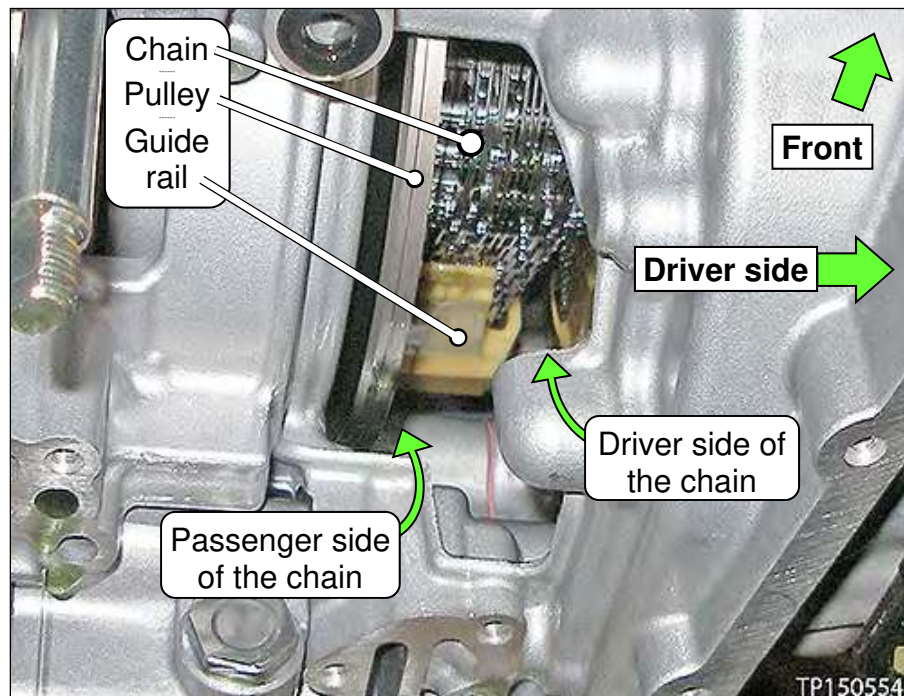
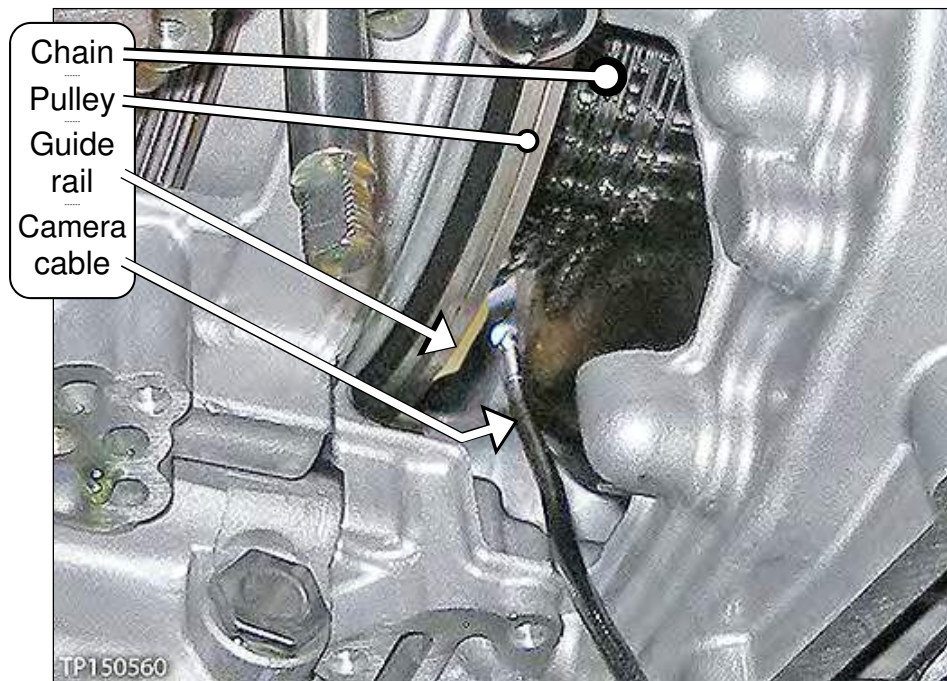
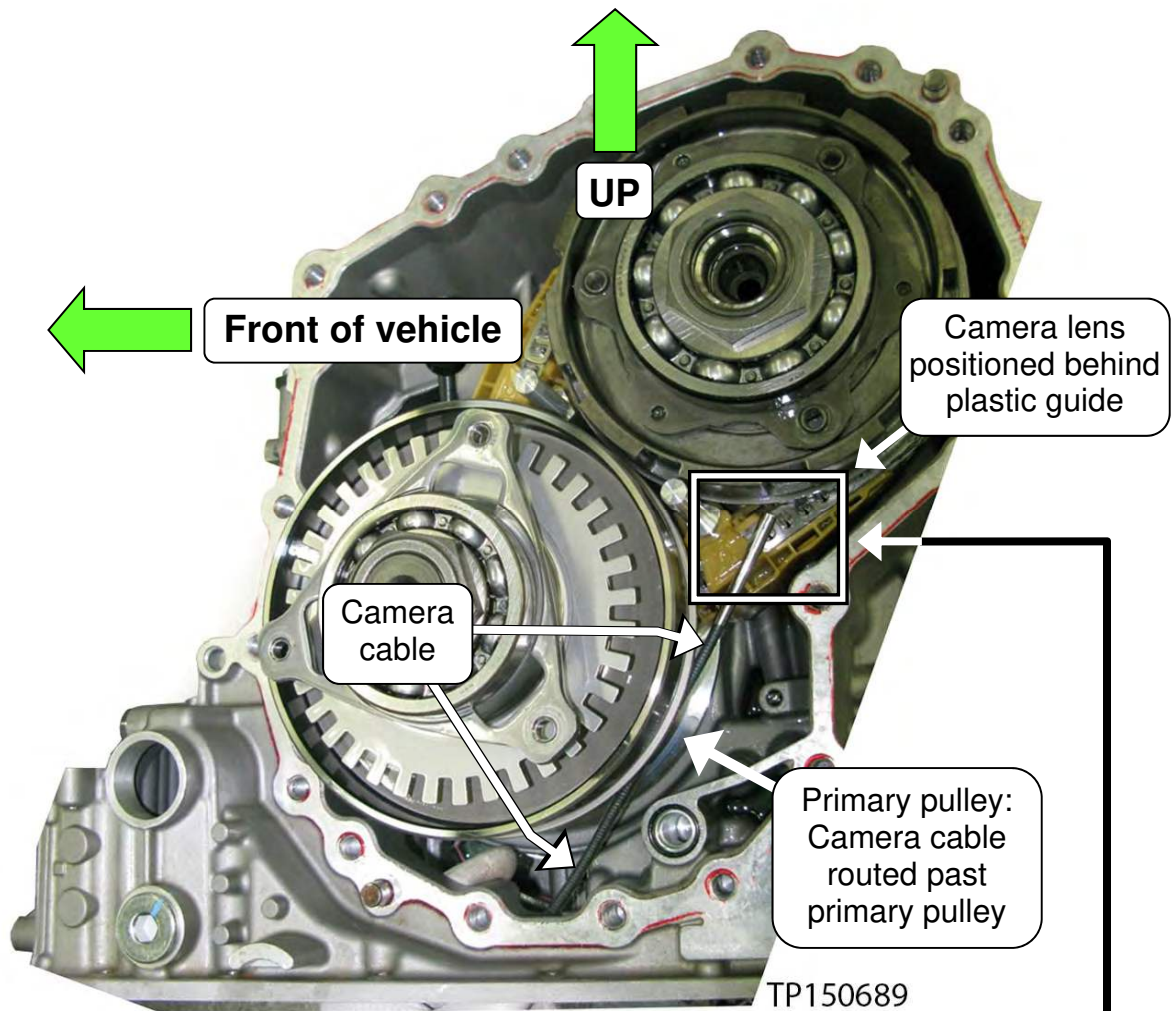
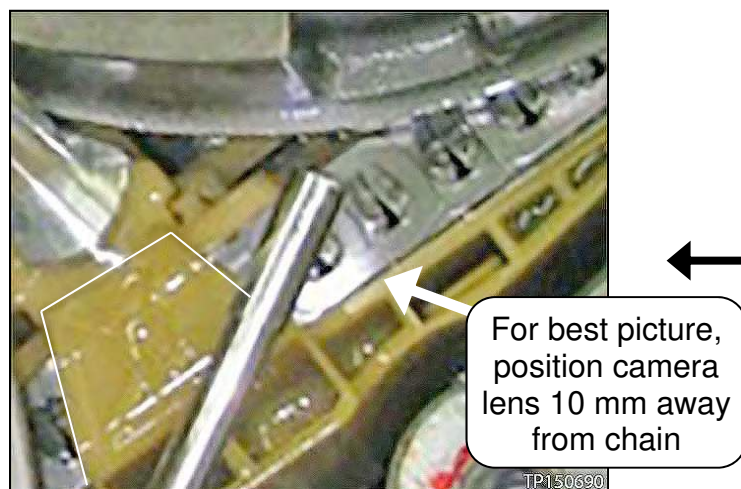

Figure 10
Figure 11
Figure 13
Figure 14
- a. First inspect the entirety (360°) of the driver side of the chain that comes in contact with the pulley (see page 11, Figure 13 and Figure 14, and page 12 Figure 15).
- Insert the camera lens behind the pulley between the guide rail and the pulley where shown in Figure 10 (also see pages 10-11, Figure 11-Figure 14).
- Figure 11 shows where to insert the camera lens on the driver side of the chain.
- Figure 13 and Figure 14 shows the routing and location of the camera.